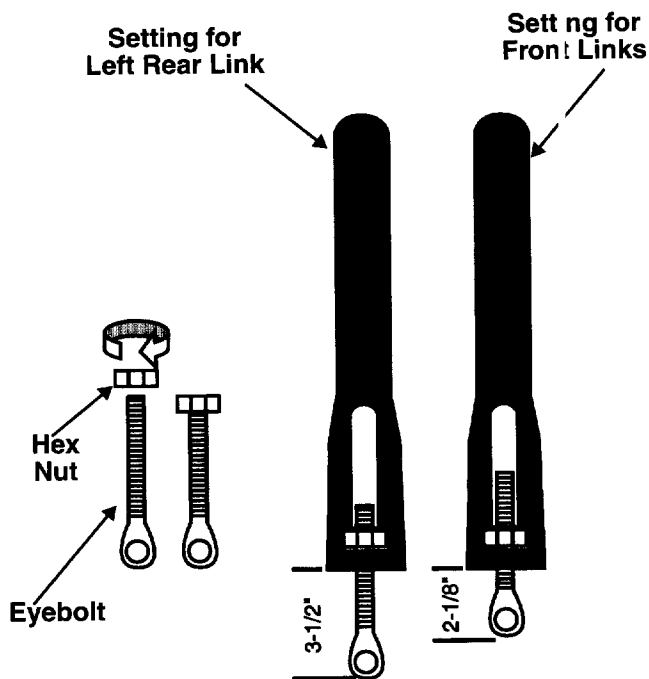

FIGURE 3.
1. Start 1/2" hex nuts on eyebolts until nuts are flushed with ends of eyebolts. See figure 3.
2. Insert eyebolts and hex nuts into the adjustable lift links located under the tractor. See figure 3.
3. Thread eyebolts into the lift links and hex nuts. The left rear link should be adjusted so the eyebolt hangs about 3-1/2 inches below the lift link. The two front links should be adjusted so the eyebolts hang about 2-1/8 inches below the lift links. See figure 3.